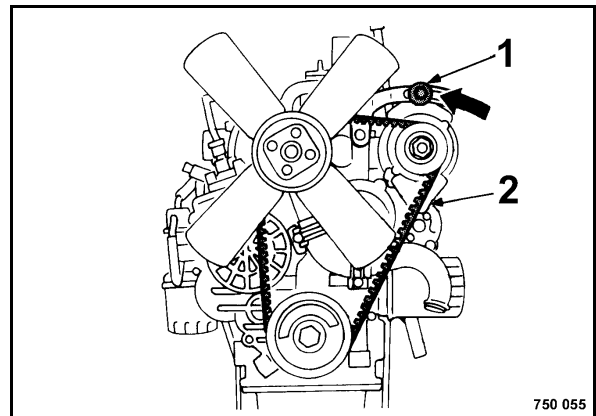

Fig. 105
- Slacken slightly the fastening screws 1 and 2 (Fig. 105) slightly.